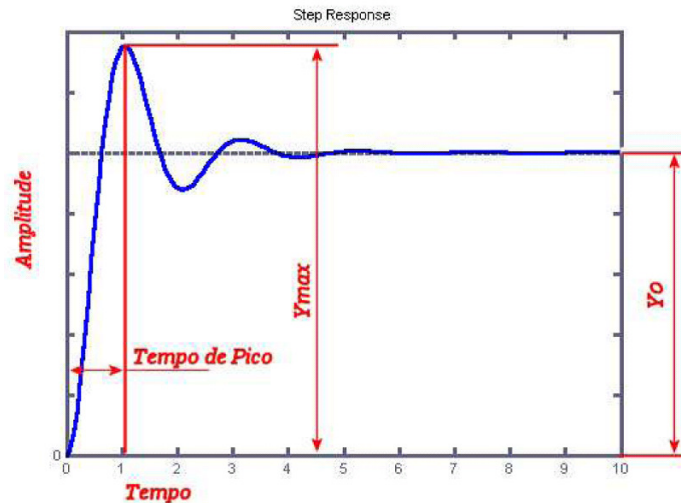

Figure 3.2: Maximum overshoot and peak time of a step response seen on the oscilloscope.
- find for the underdamped system the maximum overshoot and the peak time (see Figure 3.2);